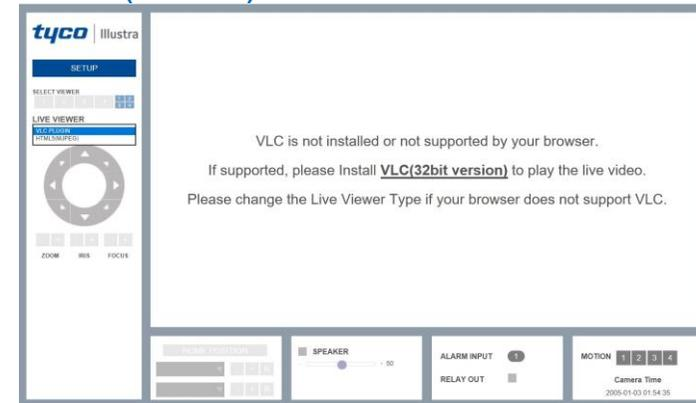

Figure 10
- Live Viewer** – Select one option: VLC plug-in or HTML (MJPEG). See Figure 10.